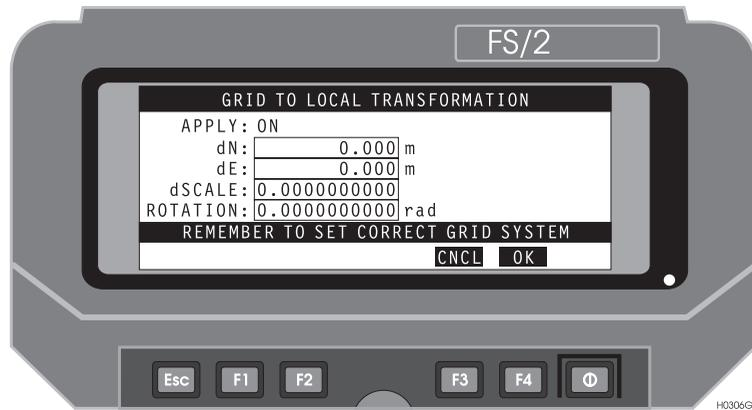

Figure 3.45: Grid to Local Transformation Screen.
4. Press Shift F3 (LOCL), calling the Grid to Local Transformation screen, Figure 3.45.